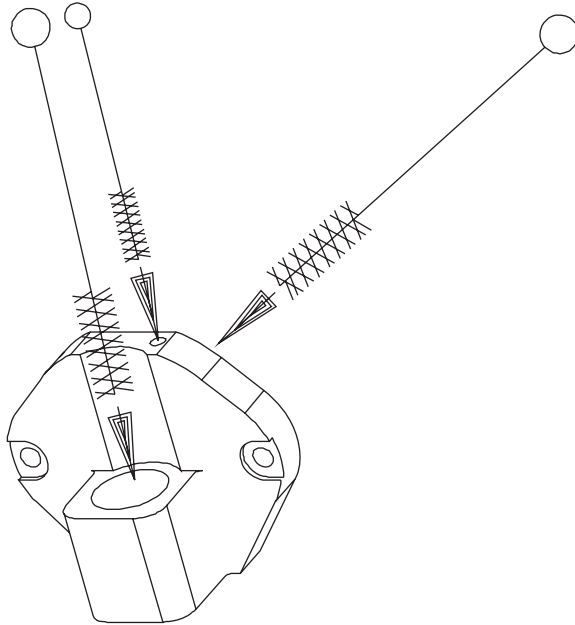

Figure 8-4
- b. the head spigot openings, center spigot ports, o-ring grooves, dispense nozzle mounting rings, and mix ports, as shown in figure 8-4